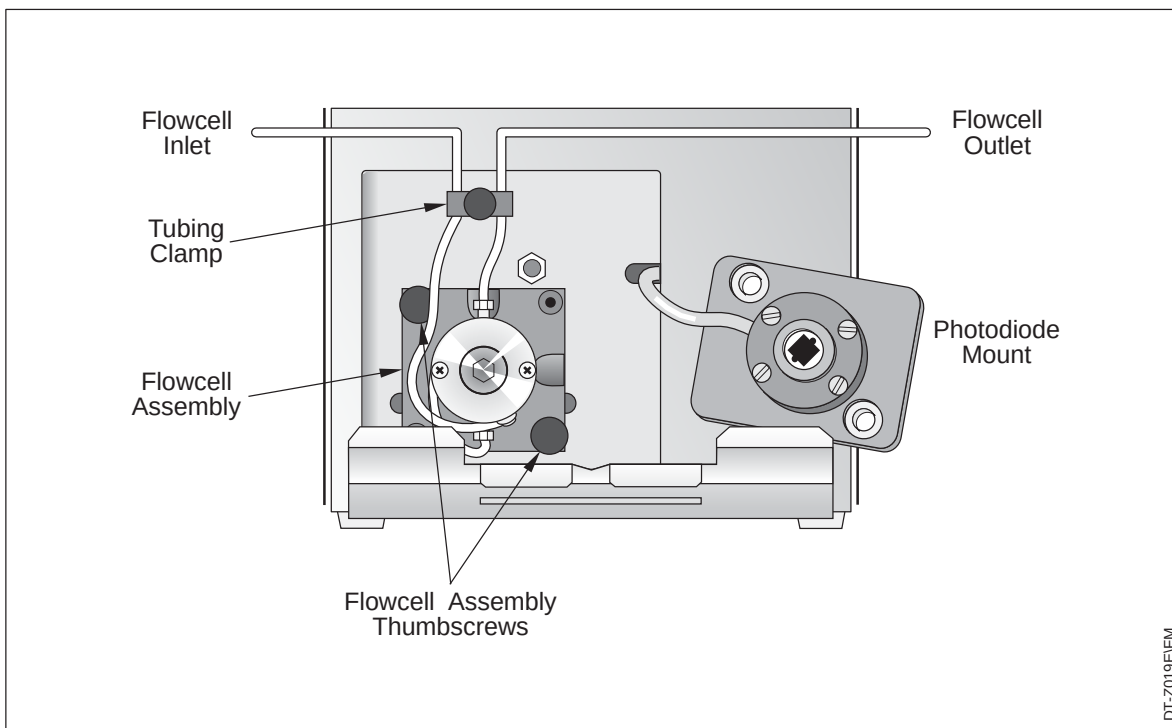

Figure 1.7 The flowcell assembly showing thumbscrews, photodiode mount, and flowcell inlet
2. Use the finger-tight fitting and ferrule sets included with the installation kit to connect the column outlet directly to the detector's flowcell (fluid) inlet. Figure 1.7 shows how the inlet line enters the detector from the left side, and winds around the flowcell before entering the flowcell from the bottom.